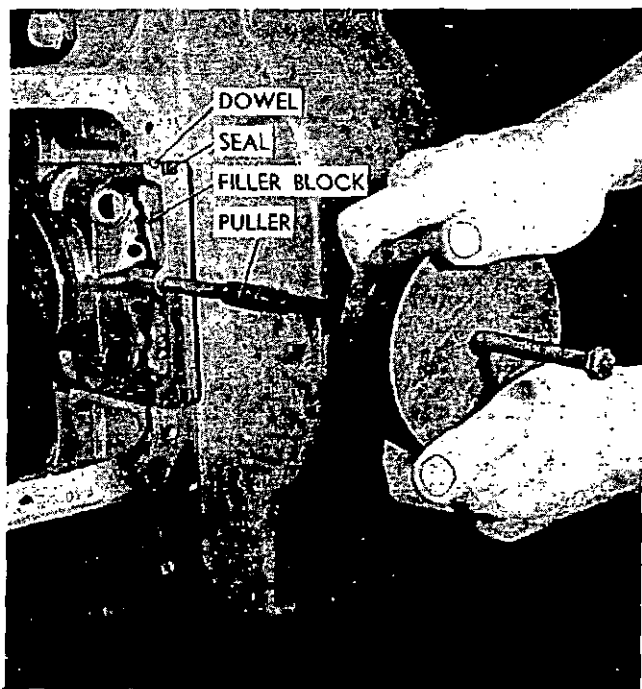

Figure 201—Removing Rear Oil Seal HD-260 & JD-382
1. Remove rear main bearing cap by using puller as shown in figure 201. As the cap is pulled, tilt forward to clear flywheel housing.
6. Install retainer "C" on bearing cap. Tighten screws securely. (Only one metal retainer (C) is required.)